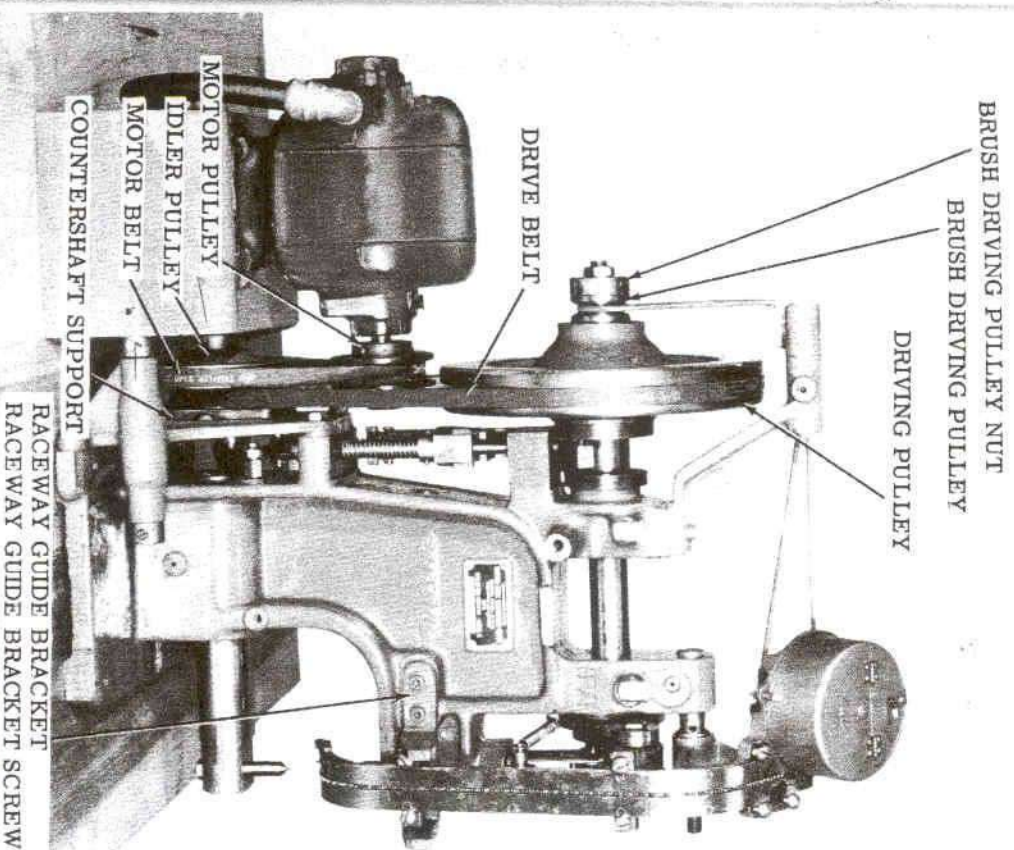

Figure 6 - Left-side View of Machine
5. Drive Belt (See Figure 6)
- (1) Loosen the two motor pulley shaft set screws that secure the pulley EMG-265 to the motor shaft (Figure 6).
- (2) Turn on the power. The pulley will become aligned with the idler pulley EMG-89+. Shut off the power. Tighten the set screws.
- (1) Loosen the pulley flange screw. Turn the loose flange to obtain just enough belt tension for operation of the machine. Tighten the screw with its point contacting one of the two grooves in the hub.
8. Eyelet Box Brush (See Figures 6 and 8)
A. Replacement of Clutch Parts (See Figures 6 and 12)
4. Remove the clutch assembly which is shown exploded in Figure 6. Examine the clutch parts for wear or damage and make the necessary replacements.